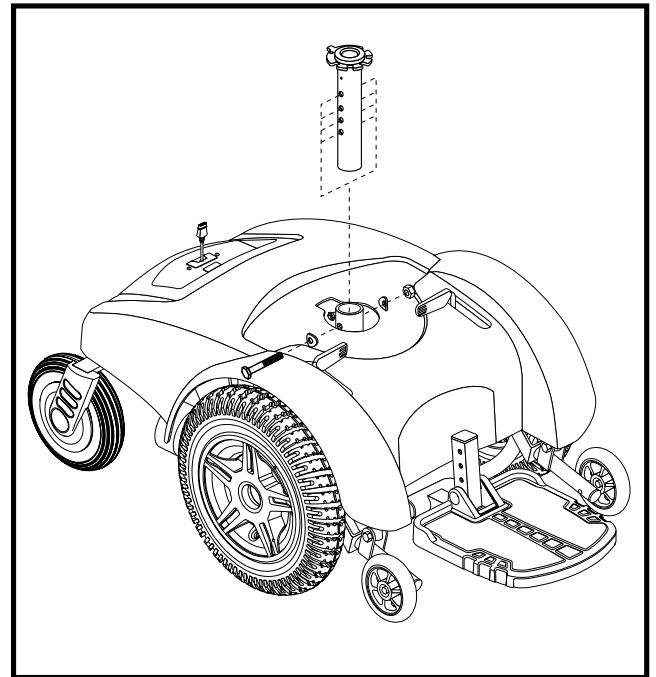

Figure 14. Seat Height Adjustment
7. Remove the seat height adjustment bolt, washers, and nut from the seat tower. See figure 14.